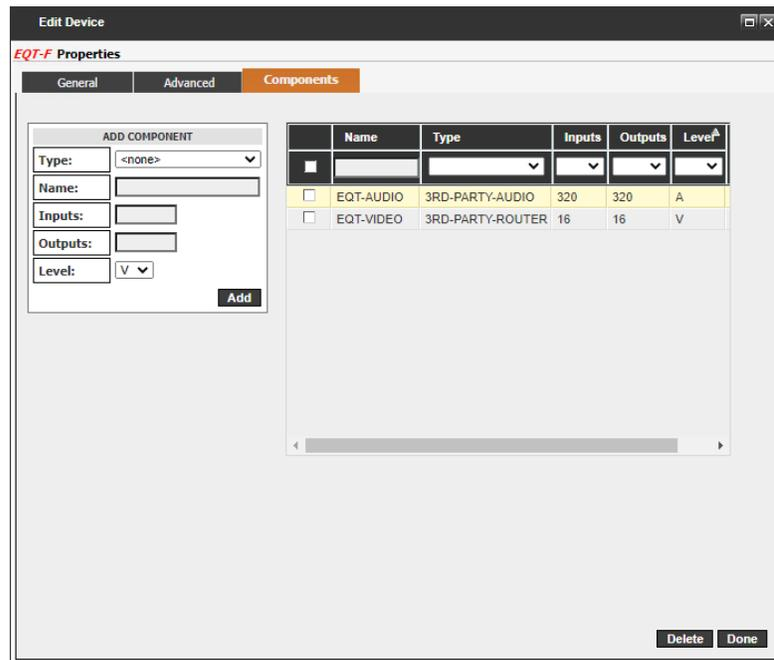

Figure 9-7 : MAGNUM - Edit Device Dialog
- In *Edit Devices* dialog, select the type component: “3RD-PARTY-ROUTER” to control video and/or “3RD-PARTY-AUDIO” to control audio. Enter the name and the quantity of inputs and outputs. Also, select the level of each component (see Figure 9-7 for details). Click “Add” after configuring each component. Once both control levels are included, click “Done”.